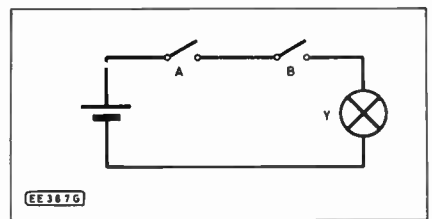

Fig. 8.19. Switch equivalent for a two-input AND gate
other input combination will produce a logic 0 output. The operation of the gate can best be understood by drawing a simple "switch equivalent" circuit like that shown in Fig. 8.19. In this circuit, a closed switch represents a logic 1 whilst an open switch represents a logic 0. In order for the lamp (Y) to light, both switch A AND switch B must be closed. Thus a logic 1 output is only obtained when both inputs are at logic 1.